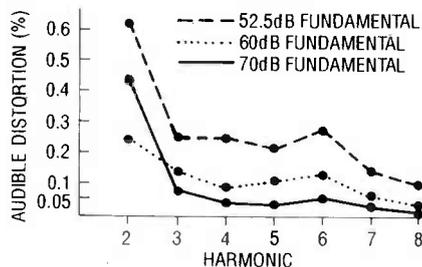

FIG. 1—THREE TEST-TONE LEVELS showing the amounts of just-audible distortions up to the 8th harmonic.
As I noted earlier, the minimum level of distortion that can be detected by the human ear has been the subject of much ill-informed controversy over the years. The graph in Fig. 1 illustrates the results of a research project on the perception of HD using a 357-Hz test tone. At a listening level of 70 dB, fourth-harmonic distortion as low as 0.05%(!) was audible. It was noted that the basic sensitivity of the human ear was the limiting factor in detecting distortion. That should come as no surprise, since distortion of pure tones or simple music such as
The hardware is controlled by several different graphically oriented software modules. The music scoring module is called Sonata; it uses the GEM graphical interface (also used by Ventura Publisher), as shown in Fig. 1. A series of drop-down menus allow you to load and save files, choose notes and rests, key signatures, instrument parameters, etc. A control panel at the bottom of the screen allows you to set volume, balance, tempo, instrument, and to initiate playback (either from the current position or from the beginning).
**FIG. 1—THE MUSIC SCORING MODULE, called Sonata, uses the GEM graphical interface. A series of drop-down menus allow you to load and save files, choose notes and rests, key signatures, instrument parameters, etc.**